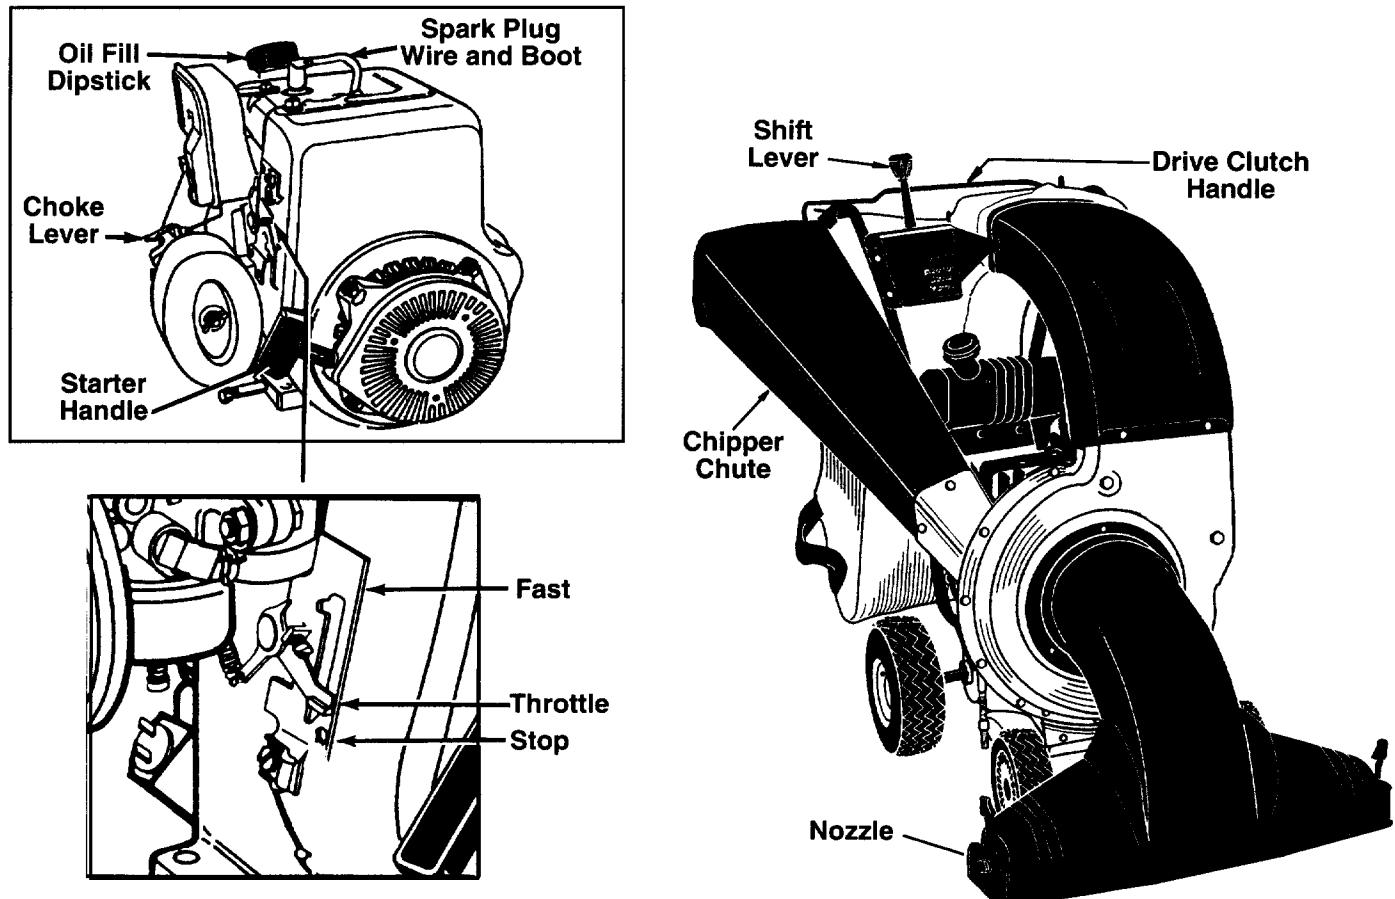

FIGURE 9.
OPERATING CONTROLS (See Figure 9)
- Move throttle control lever to STOP position. See figure 9.
- Attach spark plug wire and rubber boot to spark plug if necessary. See figure 9 for location.